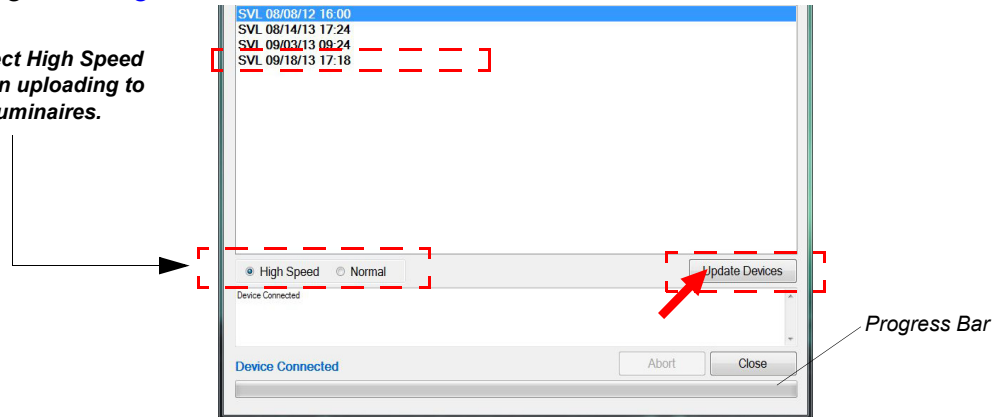

Figure 3-10: bin File Selection
Step 7. Click on bin file for luminaire to be updated (for example, SVL_091813.bin) as highlighted in Figure 3-10.
- Step 8. As indicated in Figure 3-10, click on Update Devices to start upload.